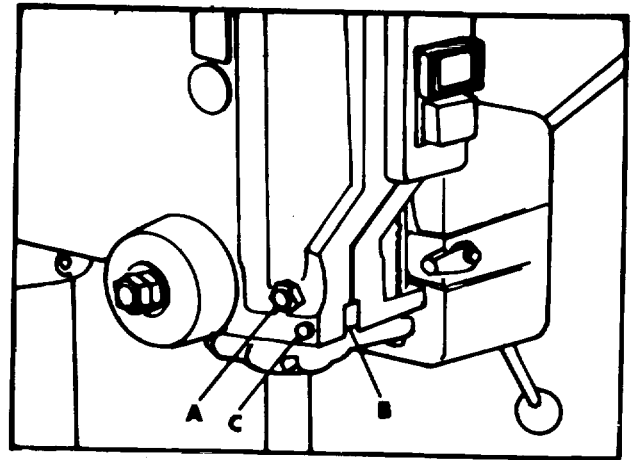

Figure 8. Quill Adjustments
The quill can be locked at any desired point in its travel by tightening the quill locking nut (A) Fig. 8. This is an especially desirable feature for set-up of tooling for production type operations. After considerable use, Play might develop between the quill and the head casting. This play can be eliminated by loosening quill locking nut (A) and lock nut (B) Fig. 8. The screw (C) can then be turned clockwise which will draw the split halves of the head casting together to compensate for wear. When the final adjustment is accomplished tighten lock nut (B), Fig. 8.